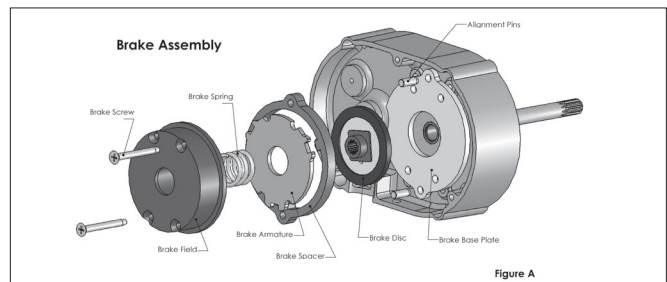

Figure 16: Brake Assembly
The brake is non-adjustable with a nominal .004 inch (0.102 mm) air gap and the brake disc must be replaced when the air gap reaches .012 inch (0.305 mm). The brake spacer should be no more than .012 inch (0.305 mm) thicker than the combined thickness of the brake disc and armature plate. Refer to Figure 16.
1. Refer to Figure 16 and disassemble the brake. Depress and hold the field assembly while removing the four brake screws. The field assembly is under spring pressure and will spring-out if not held. Examine the base plate, brake disc) and armature for excessive wear, scoring or warpage. Make sure the brake disc is not glazed, the coil firmly fixed in the field) and the brake spring is not damaged. Worn, scored, warped, glazed or damaged parts should be replaced before proceeding.
2. Refer to Figure 16 and assemble the brake. Depress and hold the field assembly while installing the four brake screws through the brake parts and mount the brake on the gear housing. Tighten the four brake screws to 25 in.lb.